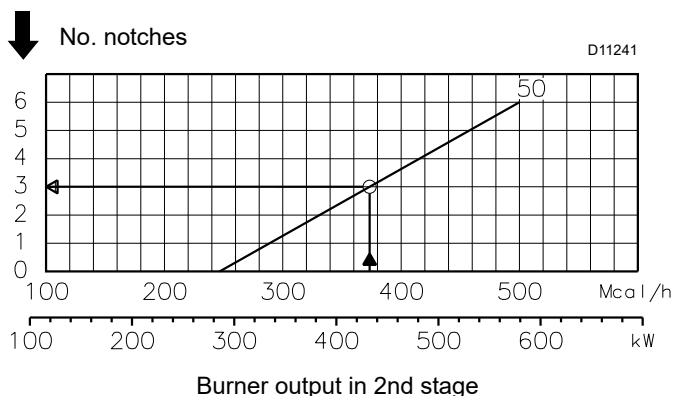
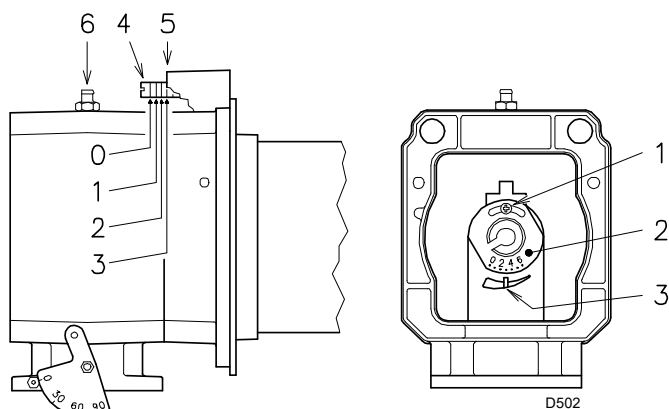

Fig. 14
Fig. 13
In the diagram of Fig. 14, find the notch at which both air and central gas/air should be adjusted.
- Turn the screw 4)(Fig. 13) until the notch found lines up with the front surface 5) of the flange.
To facilitate the adjustment, loosen the screw 6) (Fig. 13), adjust, then block.
- Loosen the screws 1)(Fig. 13) and rotate the ring nut 2) until the notch you have found corresponds with the indicator 3).
If we consult diagram (Fig. 14) we find that for this output, air and gas must be adjusted using notch 3, as shown in (Fig. 13).
Gas ring nut 2) (Fig. 13 on page 16) adjusted as per diagram (Fig. 14 on page 16).